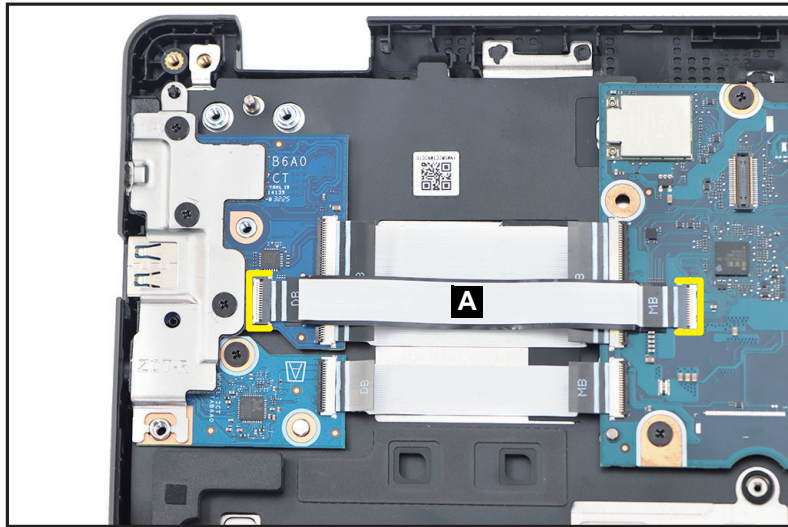

Figure 1-33. USB Board Removal
1. Disconnect the I/O board (L) FFC (A) from the USB board and mainboard connectors (Figure 1-33). Then remove the I/O board (L) FFC.